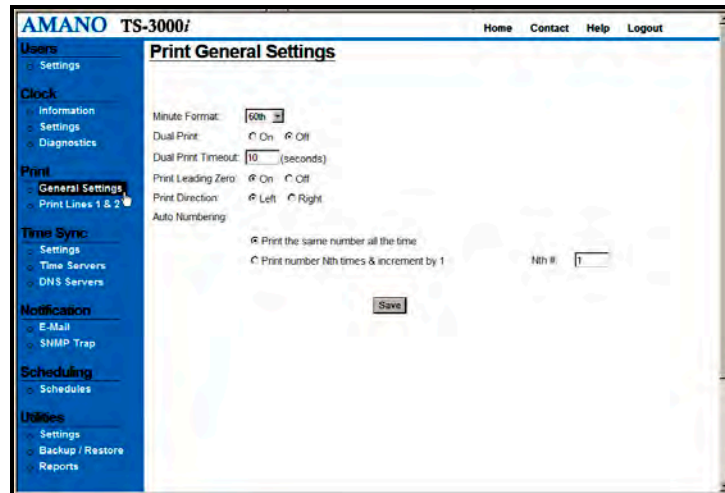

Figure 4-6. Print General Settings.
- Step 1. Click on the **General Settings** link under Print, and the **Print General Settings** screen will appear (see *Figure 4-6*).